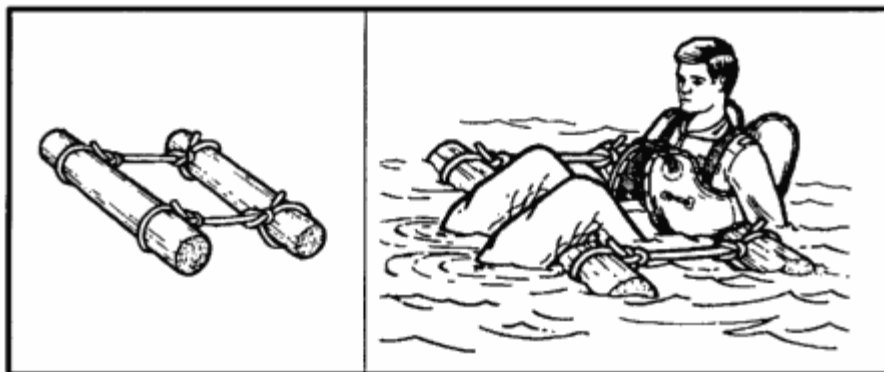

Figure 17-8. Log flotation.
- *Logs.* Use a stranded drift log if one is available, or find a log near the water to use as a float. Be sure to test the log before starting to cross. Some tree logs, palm for example, will sink even when the wood is dead. Another method is to tie two logs about 60 centimeters apart. Sit between the logs with your back against one and your legs over the other (Figure 17-8).